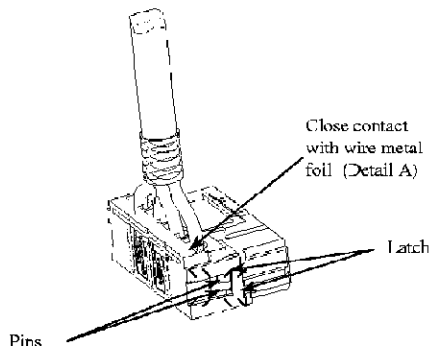

Abbildung 6 / Figure 6
9. Attach edge connector cover (see Figure 6).